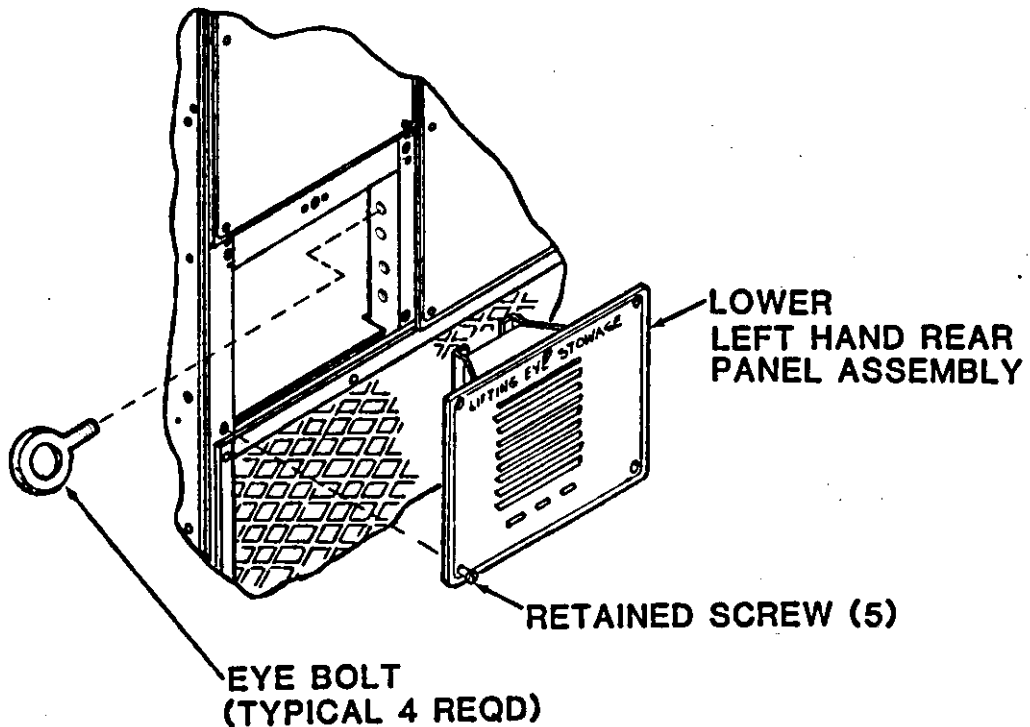

Figure 2-4. Eye Bolt Storage
e. Remove four eye bolts and store them in tapped holes in frame angle on inside of fresh air filter access panel. (See figure 2-4.)